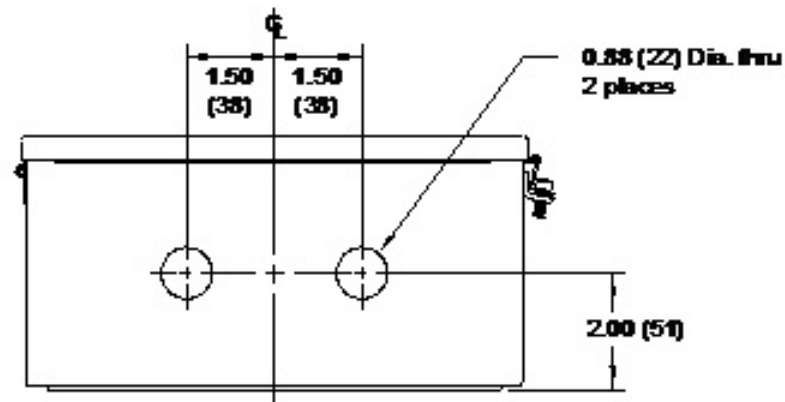

Figure 21: Stainless Steel Weatherproof Outline (ref. dwg #712-1123)
- Figure 21: Stainless Steel Weatherproof Outline